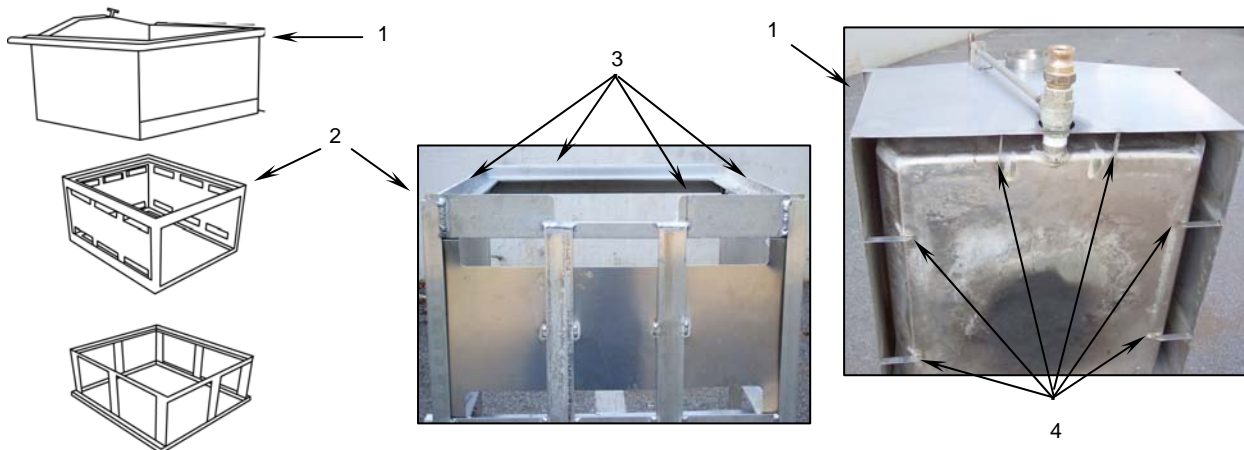

Figure 12. Sink Installation.
- f. Place the one sink assembly (**Figure 12, Item 1**) on top of each burner rack (**Figure 12, Item 2**). Ensure the top edge of the each burner rack (**Figure 12, Item 3**) fit inside the reinforcing guides (**Figure 12, Item 4**) on the bottom of the each sink assembly.